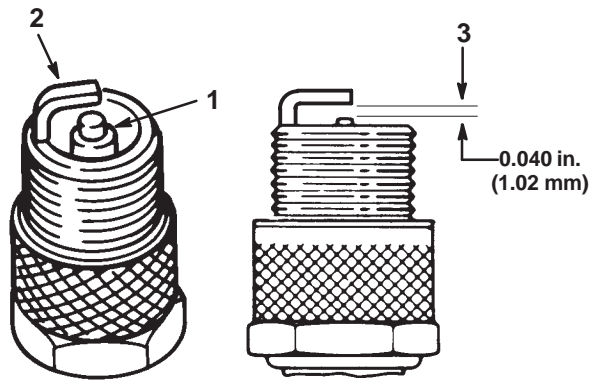

Figure 36
1. Look at the center of the spark plug(s) (Fig. 36). If you see light brown or gray on the insulator, the engine is operating properly. A black coating on the insulator usually means the air cleaner is dirty.
2. Check the gap between the center and side electrodes (Fig. 36). Bend the side electrode (Fig. 36) if the gap is not correct.